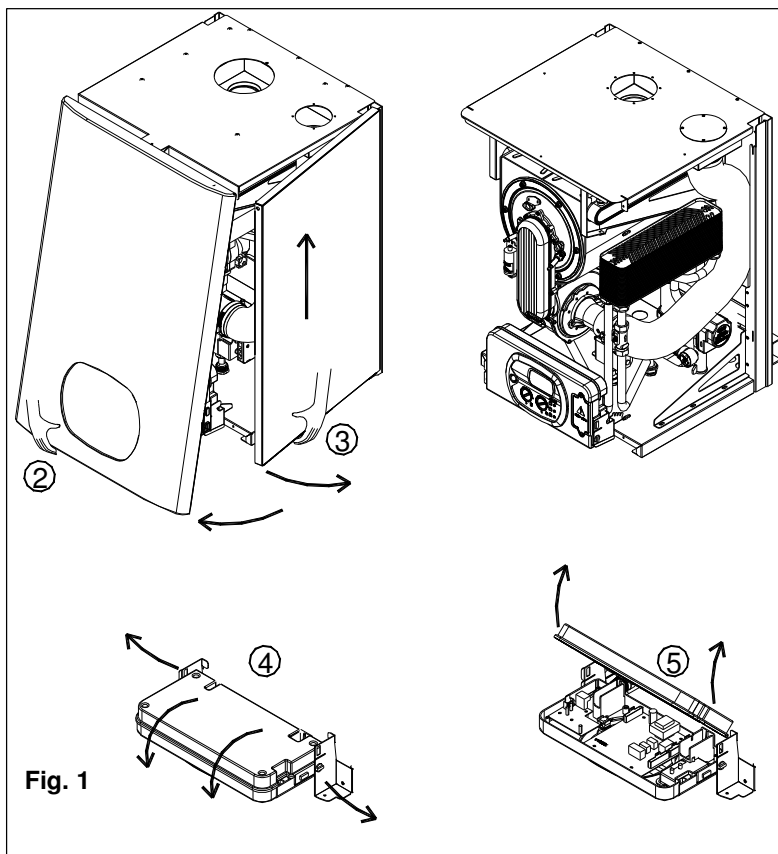

Fig. 1
- Grasp the lower part of the panel and pull it outwards ② (fig. 1) and then up.
- Remove the front panel (see fig. 1).
- Grasp the left and right control panel support brackets ④ and pull them outwards, at the same time rotating the panel downwards.
- Unscrew the four fixing screws ⑤ and remove the cover.